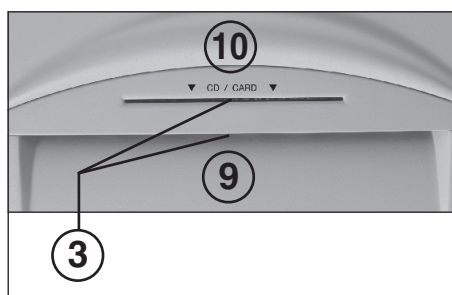

fig. 2
- 3 = Light barrier (forward running) (fig. 2)**
Feed the paper into the cutting system through the paper feed slot (9) (fig. 2).
Feed the data media (CDs, DVDs, credit cards or 3.5" diskettes) into the cutting system one by one through the separate security feed slot (10) (fig. 2).